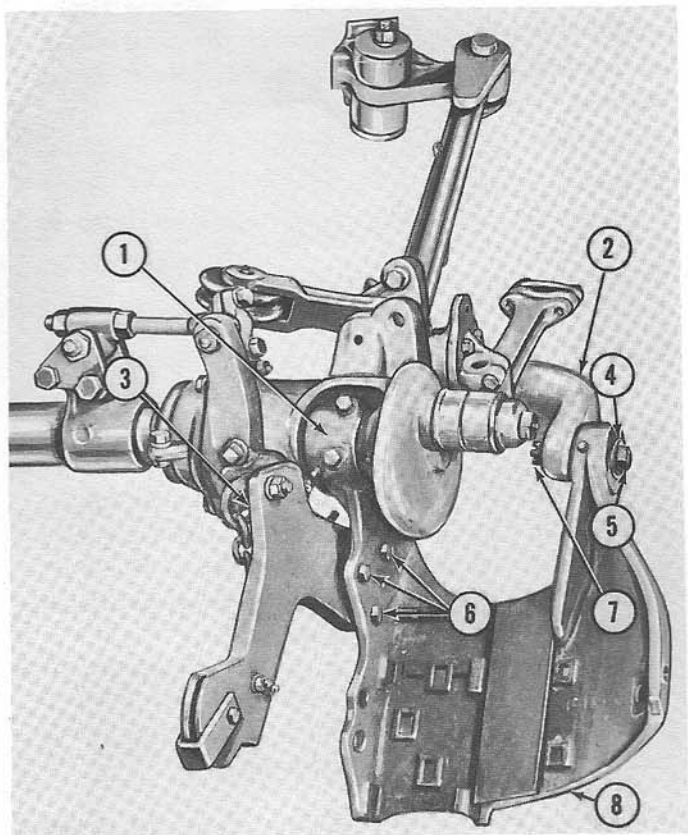

Figure 25
10. Attach the cutter bar inner shoe (8), Figure 25, to the hinge assembly (2), as follows:
- a. Remove the bearing cap (1) from the inner shoe bearing.
- b. Position the inner shoe assembly (8) so the shaft fits on the bearing and position the bearing cap (1) over the shaft. Secure with two lock washers and bolts.